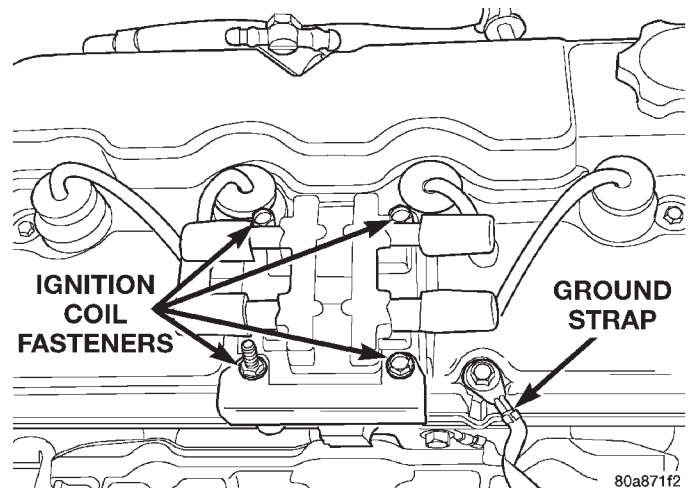

Fig. 30 Ignition Coil Pack and Ground Strap
(1) Remove ignition coil pack and plug wires (Fig. 30). Remove ground strap.
(2) Remove the cylinder head cover fasteners.
(3) Remove cylinder head cover from cylinder head.